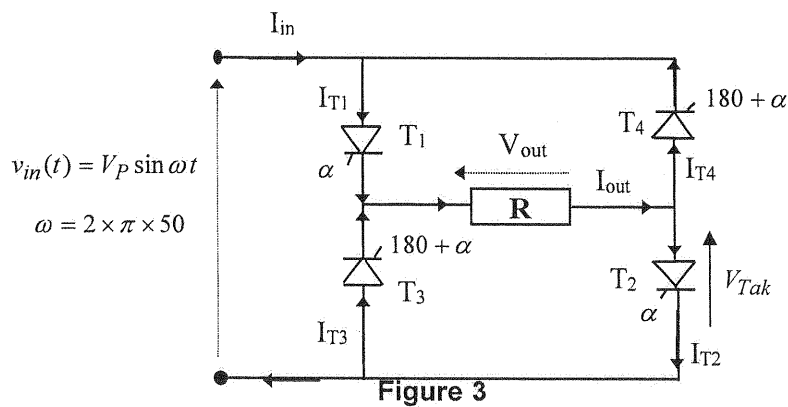

Figure 3
- b. The operational conditions for the fully controlled AC-to-DC converter shown in Figure 3 below and given in table 1.
- (i) Explain briefly the operation of single phase full-wave controlled rectifier with R load as shown in Figure 3.
- (ii) Refer figure 3, determine using **APPENDICES 2,3 and 4** as appropriate: